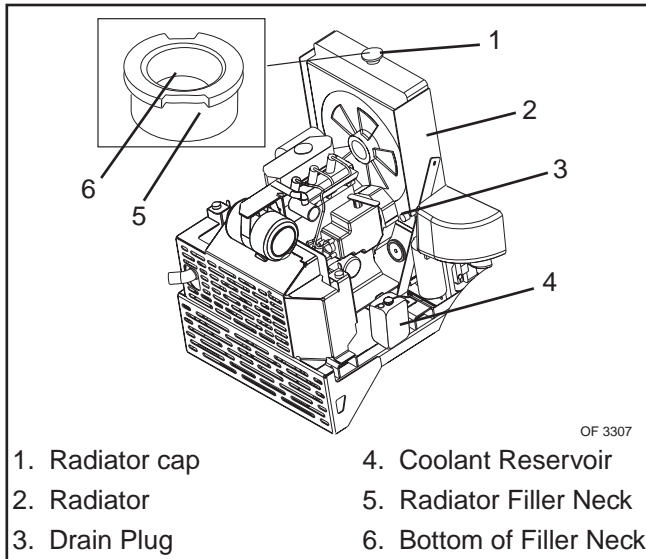

Figure 23
2. Remove radiator cap (Figure 23).